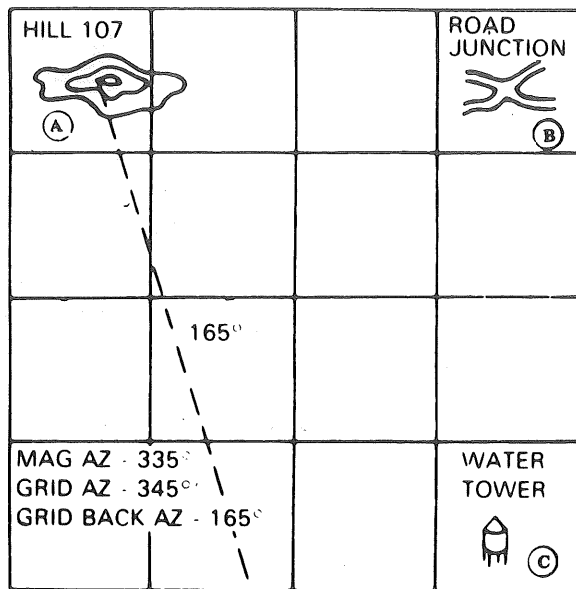

Figure 1b.
Step 3: Measure the magnetic azimuth to one of the known locations: change this to a grid azimuth (fig 1b).